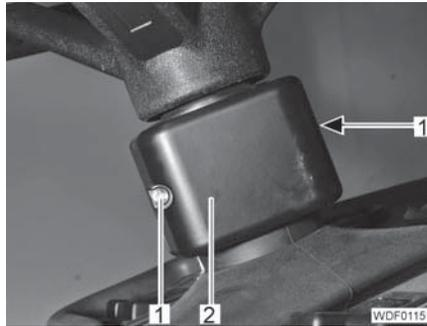

Fig. 437 Cover attachment
- Unscrew the 2 screws (Fig. 437,1).
- Remove the cover (Fig. 437,2).
- Place on the cover (Fig. 437,2).
- Screw in and tighten the 2 screws (Fig. 437,1).